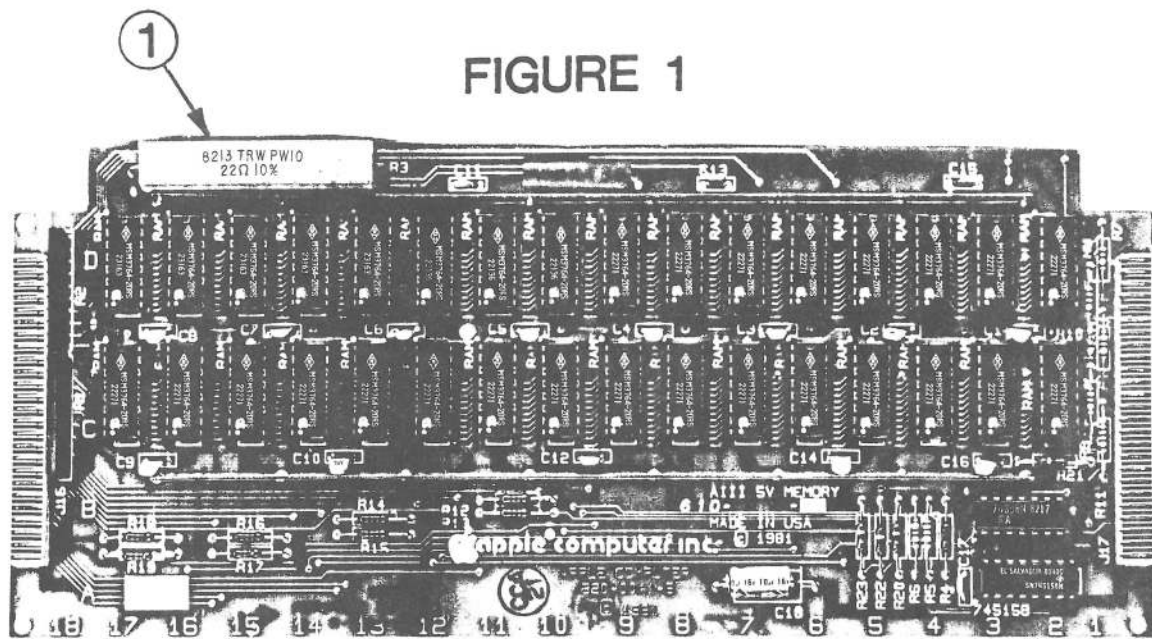
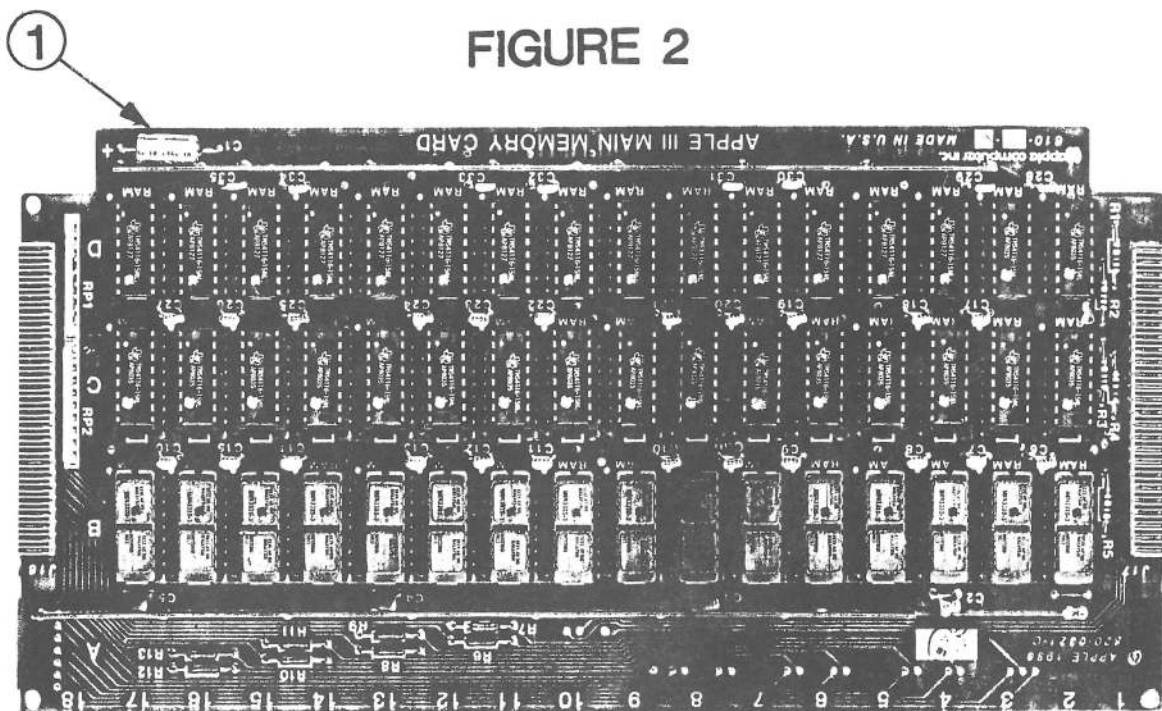

FIGURE 1
FIGURE 2
- b) Look straight down through the main opening toward the front of the chassis. You will see the edge of the memory board projecting from under the keyboard, and on the left corner of the board you will see either a large grey ceramic resistor (5V board: Figure 1, #1), or a small blue tubular capacitor (12V board: Figure 2, #1).